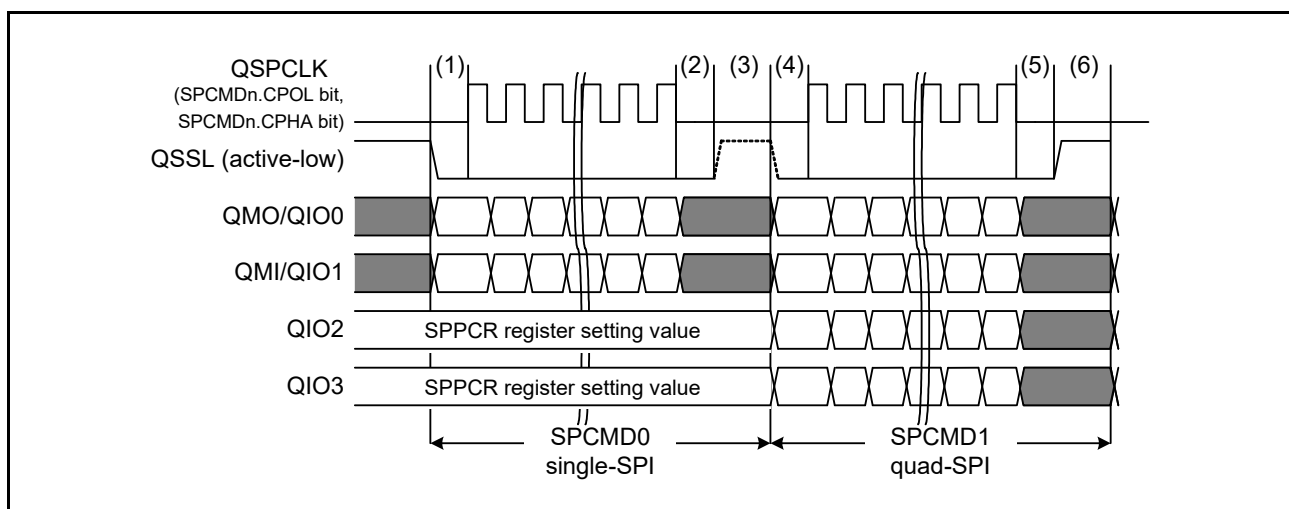

Figure 45.22 Burst Transfer Example in which QSSL Signal Level Keeping Function is Used (Single- and Quad-SPI Modes Used) (n = 0 to 3)
The other method uses the QSSL signal level keeping function as in single-SPI mode. Since this method allows switching the SPI transfer modes (single-/dual-/quad-SPI) during a transfer, it is particularly convenient when used with serial flash memory, where command data is written in single-SPI mode and data to be stored in memory is written in quad-SPI mode. Note, however, that at least one delay cycle should be inserted between transfers when switching the SPI transfer modes. Figure 45.22 shows a burst transfer example in which both single-SPI and quad-SPI modes are used. The following describes operations (1) to (6) in the figure.
- (1) Clock delay period according to the SPCMD0 register setting. The setting should be made so that the delay period should be at least 1.5 QSPCLK cycles for the first transfer in the burst transfer.
- (2) QSSL negation delay period according to the SPCMD0 register setting. Since the SPCMD0.SSLKP bit is set to 1, QSSL is not negated even after QSSL negation delay period is over. The QSSL negation delay period depends on the SPCMD0.SLNDEN bit setting. When the SPCMD0.SLNDEN bit is 1, the QSSL negation delay period is determined by the SSLND register setting, and the delay period is 0 QSPCLK cycle when the SPCMD0.SLNDEN bit is 0.
- (3) Next-access delay period according to the SPCMD0 register setting. Since the SPCMD0.SSLKP bit is set to 1, QSSL is not negated even during next-access delay period. The next-access delay period depends on the SPCMD0.SPNDEN bit setting. When the SPCMD0.SPNDEN bit is 1, the next-access delay period is determined by the SPND register setting, and the delay period is 0 QSPCLK cycle when the SPCMD0.SPNDEN bit is 0. Up to this period, the data pin is driven according to the SPCMD0 register setting.
- (4) Clock delay period according to the SPCMD1 register setting. The clock delay period depends on the SPCMD1.SCKDEN bit setting. When the SPCMD1.SCKDEN bit is 1, the clock delay period is determined by the SPCKD register setting, and the delay period is 0 QSPCLK cycle when the SPCMD1.SCKDEN bit is 0.
- (5) QSSL negation delay period according to the SPCMD1 register setting. The setting should be made so that the delay period should be at least one QSPCLK cycle for the last transfer in the burst transfer. Since the SPCMD1.SSLKP bit is set to 0, QSSL is negated after QSSL negation delay period is over.
- (6) Next-access delay period according to the SPCMD1 register setting. The setting should be made so that the delay period should be at least one QSPCLK cycle for the last transfer in the burst transfer. Set the SPCMD1.SSLKP bit to 0 to negate QSSL.